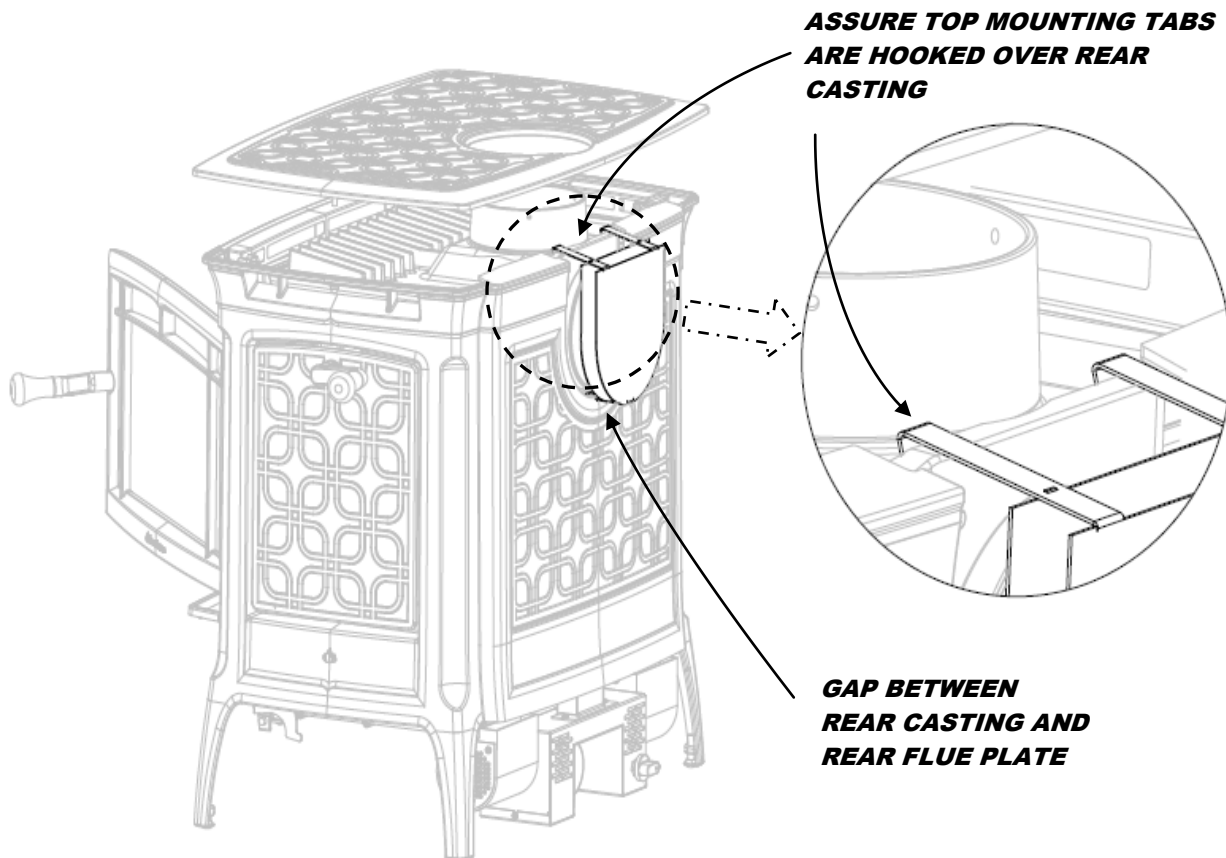

Figure 2
8. Gently tilt the Heat Shield back to true vertical and slide the entire unit down until all foot tabs are fully engaged behind the rear casting (see Figure 2).